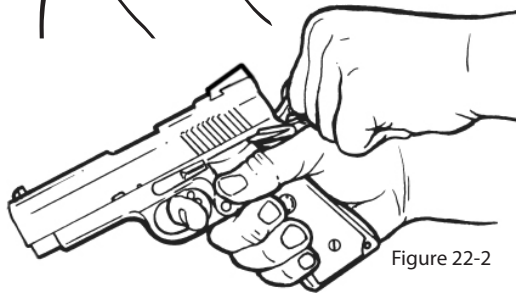

Figure 22-2
6. While holding slide in rearward (open) position, carefully inspect chamber making sure it is empty (Figure 22-2).
8. Carefully lower hammer as described in **HAMMER LOWERING** section (Figure 22-2).